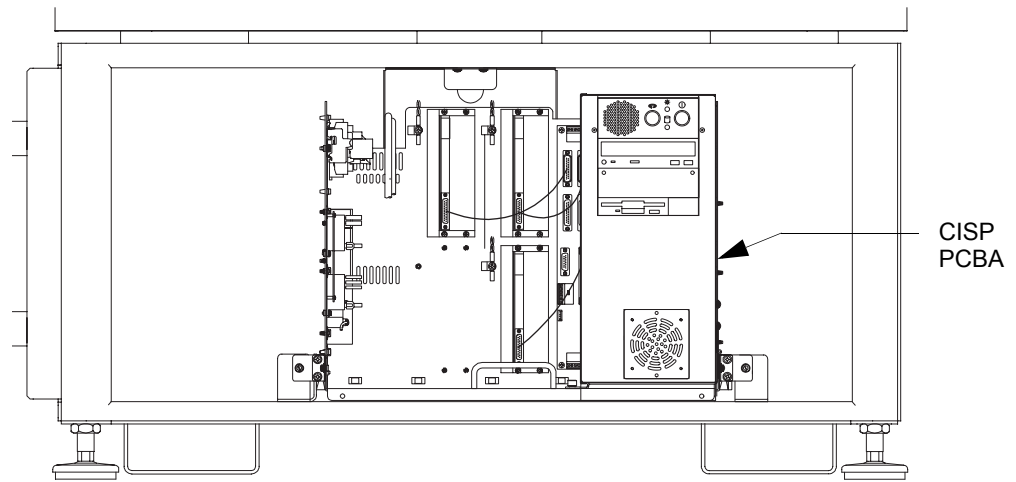

Figure 9-28 Location of the Connector Interface Subpanel (CISP) PCBA
4. The CISP PCBA is located on the right side wall of the drawer; see Figure 9-28.